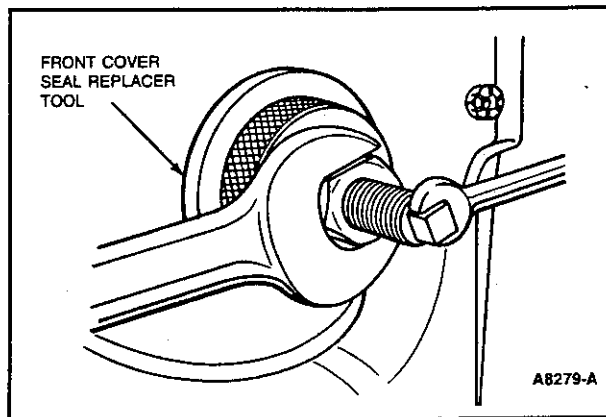

Figure 60 Crankshaft Seal — Front Installation
1. Coat a new seal with grease, then install the seal in the cover. Drive the seal in until it is fully seated in the recess (Figure 60). Check the seal after installation to be sure the spring is properly positioned in the seal.